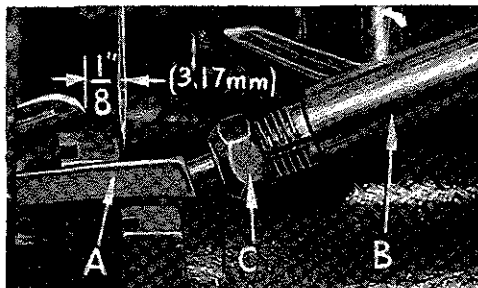

Fig. 5
On all of the Styles covered in this catalog except Style 39500 TH, insert lower looper (A, Fig. 5) into bar (B). With lower looper at left end of its stroke, set looper point  $\frac{1}{8}$  inch (3.17 mm) from center of needle (Fig. 5), using looper gauge No. 21225- $\frac{1}{8}$ . Do not have lower looper deflecting needle. Tighten nut (C).
On machine Style 39500 TH insert lower looper (A, Fig. 5) into bar (B). With lower looper at left end of its stroke, set looper point  $\frac{3}{32}$  inch (2.38 mm) from center of needle (Fig. 5), using looper gauge No. 21225- $\frac{3}{32}$ . Do not have lower looper deflecting needle. Tighten nut (C).